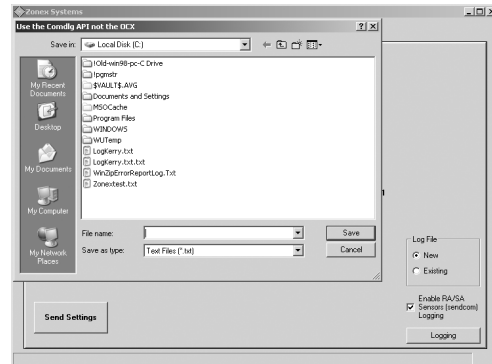

Fig. 33
5. The program must be named and then saved onto your C drive (*see Fig. 33*). For example, we saved a file named **Log Zones** in **C:\Program Files\Zonex Systems**.